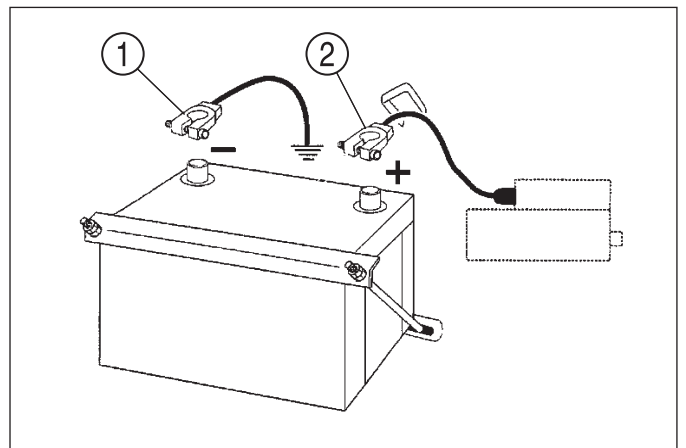

FIG. 77
FIG. 77: Tractors are shipped with the battery installed. If battery replacement should become necessary, disconnect negative (-) cable (1) first and then remove positive (+) cable (2). Loosen and remove battery securing clamp and carefully remove battery from tractor.